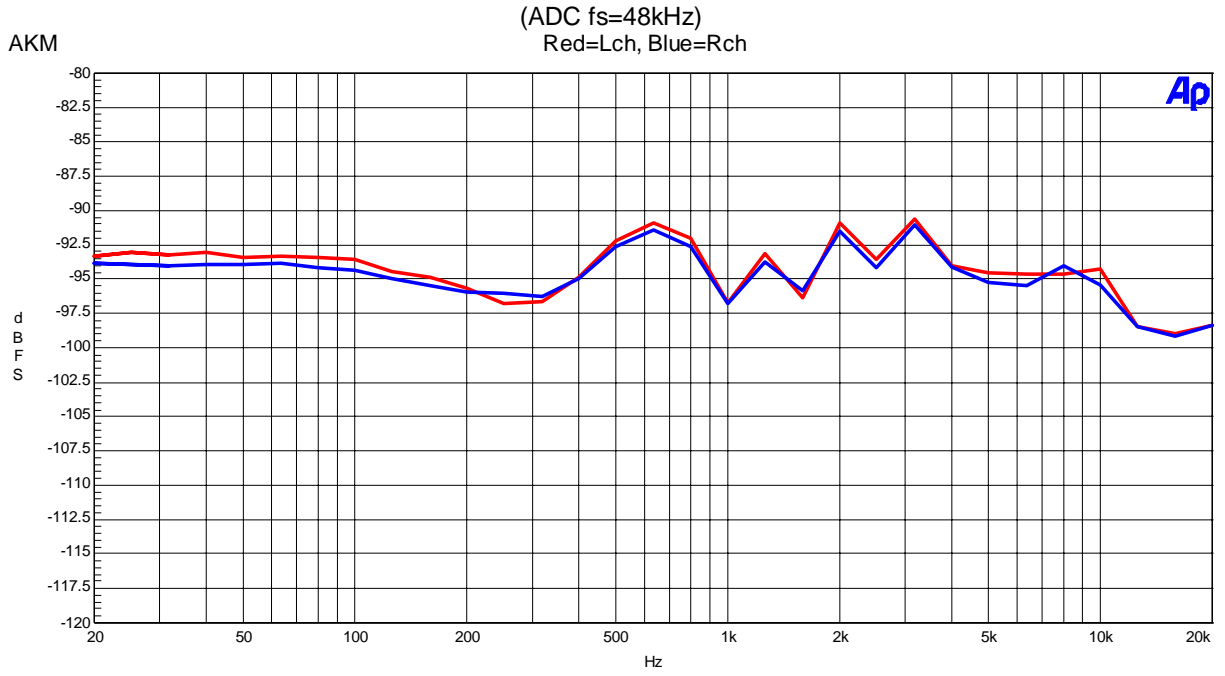

Figure 11 THD + N vs Input Frequency (Input=-0.5dBFS)
- Figure 11 THD+N vs fin (Input level=0dBFS)